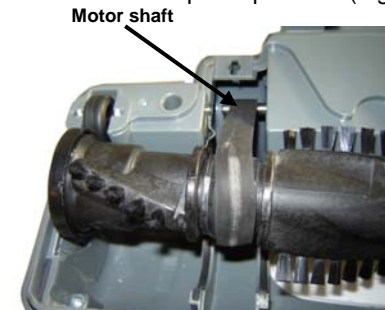

Fig. 32
6. Insert the new belt over the motor shaft first and then over the brush. (Fig. 32)